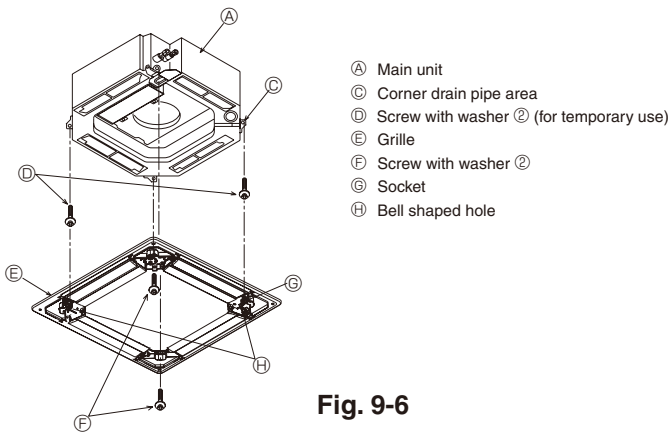
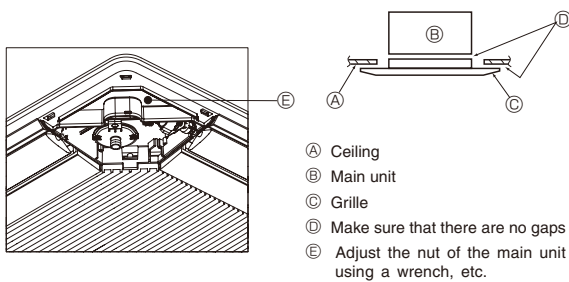

Fig. 9-6
Fig. 9-7
9.4.2. Temporary installation of the grille (Fig. 9-6)
- Temporarily secure the grille using the bell shaped holes by putting the socket of the grille marked (G) on the corner drain pipe area of the main unit.
9.4.3. Securing the grille (Fig. 9-7)